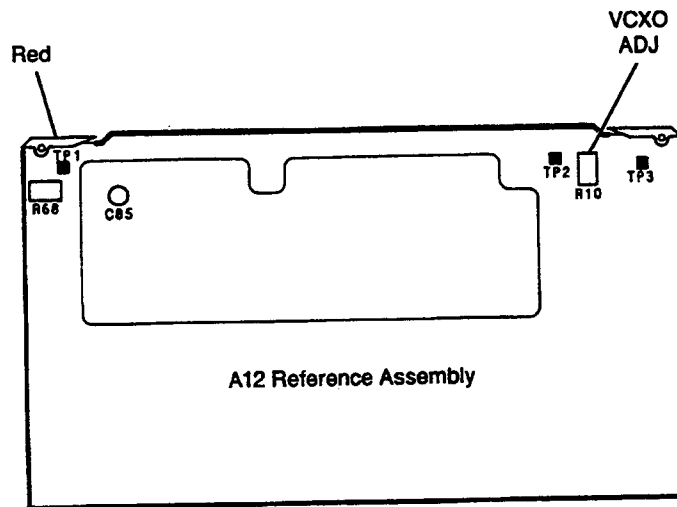

Figure 8. VCXO ADJ Adjustment Location
- To adjust the frequency, locate the A12 assembly (red extractors) and adjust VCXO ADJ (see Figure 8) for a frequency counter reading as close to 50 MHz as possible. It must be within 500 Hz.